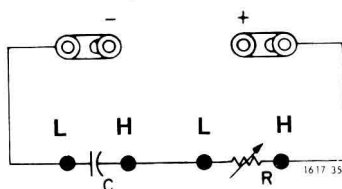

Figure 6-3. Connections for R and C in the D-dial check.
- Connect to the bridge a 1.0 μ F Standard Capacitor*, such as GR 1409 in series with a decade resistance box, such as a GR 1433 (Figure 6-3).